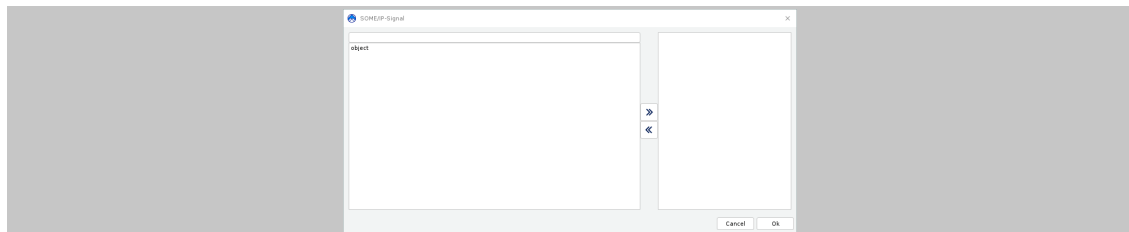

Figure 18: Selection of signals from SOME/IP payload
5. On the second page of the dialog (see Figure 18) select the values you want to be extracted as signals in the tree structure on the left.